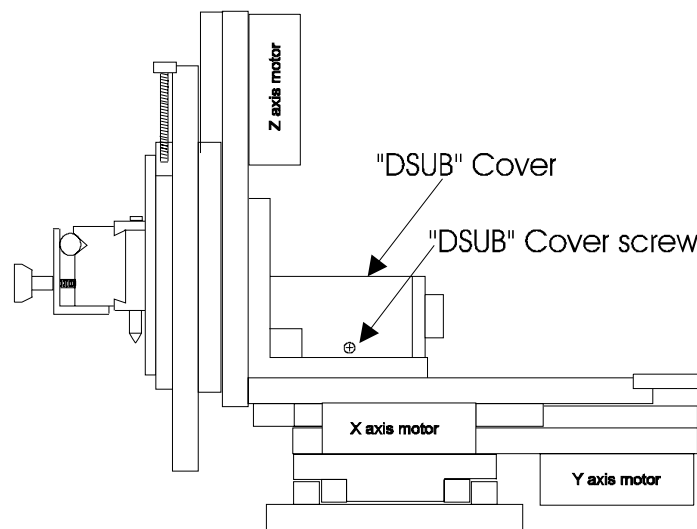

Figure 27. DB-25 connector (D-sub) cover removal.
2. Identify the DSUB connector cover. It is located on top of the Y-axis slide assembly, immediately behind the Z-axis slide assembly (see Figure 27).